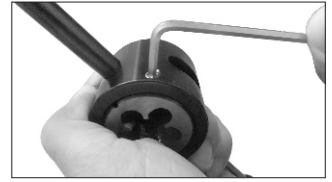

Fig.2-3
3. Tighten the screws to fix the die firmly. (Fig.2-3)